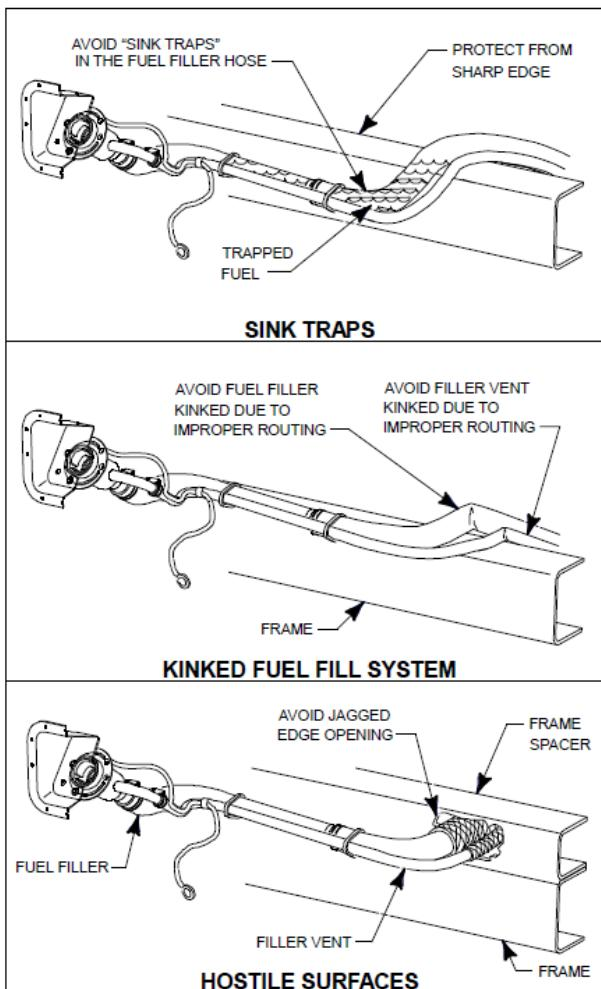

Figure 4 – Fuel Fill System Installation
- When installing accessories or equipment, avoid exposure of fuel and vapor hoses to surfaces with sharp edges (see "Hostile Surfaces", Figure 4) or high temperature surfaces (near hot exhaust or coolant). Also avoid installations which result in the exposure of these lines to road debris or undercoating.
- Keep the flow of fuel continuously downward from the inlet of the fuel filler pipe all the way to the tank. See "Sink Traps" in Figure 4. Fuel trapped in low spots can be expelled when the cap is removed, even if the tank is nearly empty.
- Avoid pinches or kinks as they may restrict fuel filling and venting. Hose length may require adjusting depending on second unit body width. See "Kinked Fuel Fill System", Figure 4
- Do not place adjacent hardware such that it may cut or otherwise damage the filler neck or vent hoses and cause fuel or vapor leakage. See Hostile Surfaces, Figure 4.